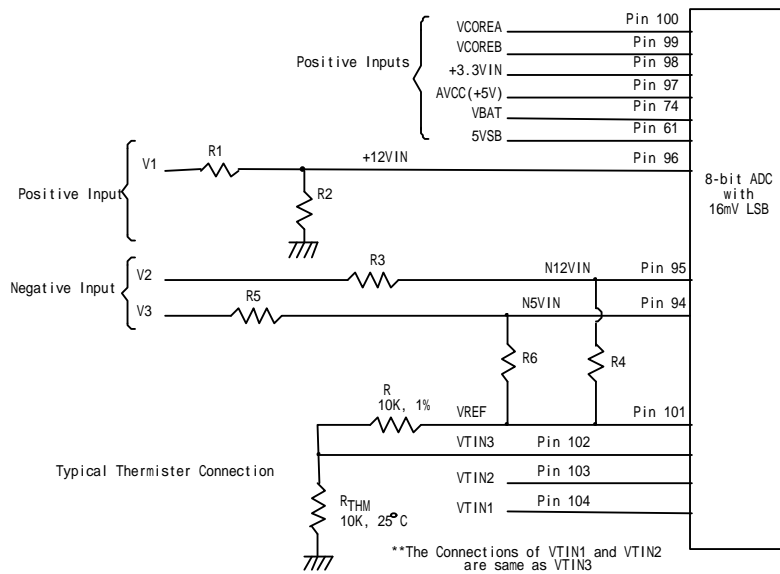

Figure. 9.2
The maximum input voltage of the analog pin is 4.096V because the 8-bit ADC has a 16mV LSB. Really, the application of the PC monitoring would most often be connected to power suppliers. The CPU V-core voltage ,+3.3V ,battery and 5VSB voltage can directly connected to these analog inputs. The +12V,-12V and -5V voltage inputs should be reduced a factor with external resistors so as to obtain the input range. As Figure 9.2 shows.
The negative voltage should be connected two series resistors and a positive voltage VREF (is equal to 3.6V). In the Figure 9.2, the voltage V2 and V3 are two negative voltage which they are -12V and -5V respectively. The voltage V2 is connected to two serial resistors then is connected to another terminal VREF which is positive voltage. So as that the voltage node N12VIN can be obtain a posedge voltage if the scales of the two serial resistors are carefully selected. It is recommended from Winbond that the scale of two serial resistors are R3=232K ohms and R4=56K ohm. The input voltage of node N12VIN can be calculated by following equation.
The W83697HF can connect three thermistors to measure three different envirmnt temperature. The specification of thermistor should be considered to (1) β value is 3435K, (2) resistor value is 10K ohms at 25°C. In the Figure 9.2, the themistor is connected by a serial resistor with 10K Ohms, then connect to VREF (Pin 101).